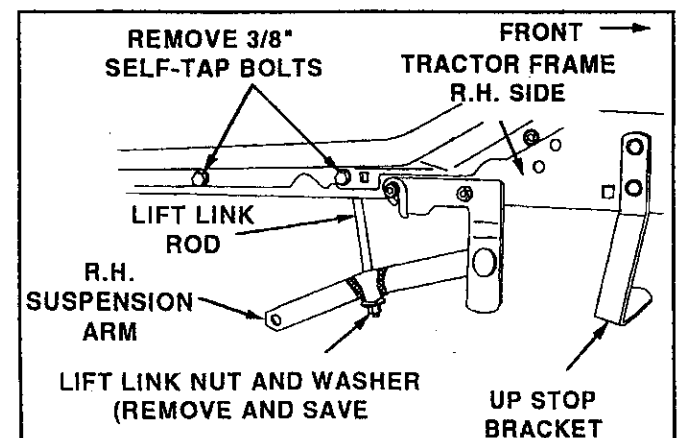

FIGURE 9
- Remove and save suspension arm with nut and washer from both lift link rods and up stop bracket with nuts and bolts from tractor frame to allow assembly of snow blade. Also remove the 3/8" self-tapping bolts from each side of the tractor frame as shown in figure 9. The lift link nuts will be used later to install snow blade brackets.